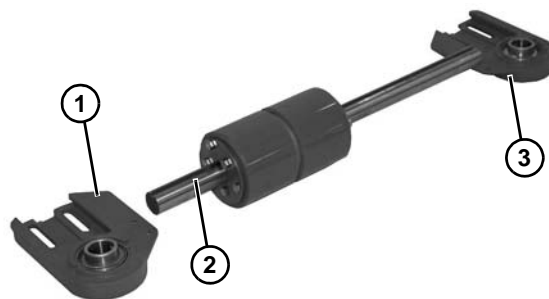

Figure 79
7. Slide the headplate with bearing (**Figure 79, item 1**) off the shaft (**Figure 79, item 2**).
8. Repeat for opposite side headplate (**Figure 79, item 3**).